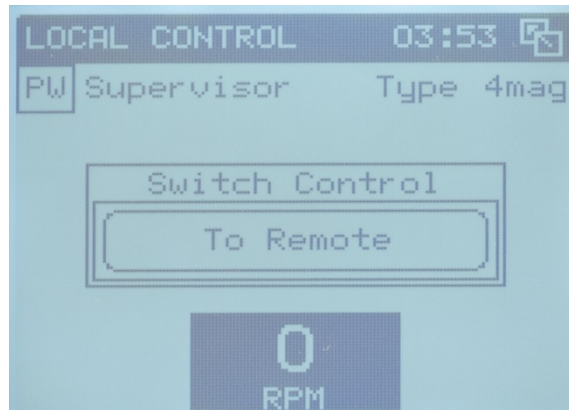

Figure 30: Remote mode screen
- On the manual mode screen, press edit. The manual setup screen opens (see Figure 30).